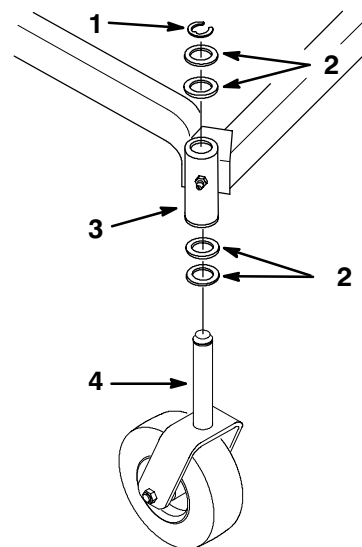

Figure 26
2. Remove the retaining ring and thrust washer(s) from the top of the castor wheel fork (Fig. 26).
6. Inspect the castor wheel fork for wear and replace if necessary (Fig. 26).
7. Slide the castor wheel fork through the bushings in the mounting tube. Replace the thrust washer(s) onto the fork and secure with the retaining ring (Fig 26).